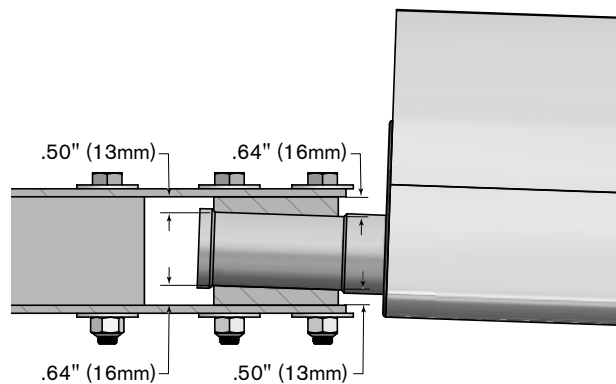

Figure 2
- 3 Position the blade clamps around the shank of a blade so that the blade will slope downwards when installed. The blade clamps must comply with **Figure 2**. Ensure that the blade clamps are positioned against the blade safety shoulder. Large nylon cable ties can be used to temporarily hold blade clamps on the blade during installation.
- 4 Insert the blade with blade clamps around the shank between the hub assembly plates as shown in **Figure 2**.